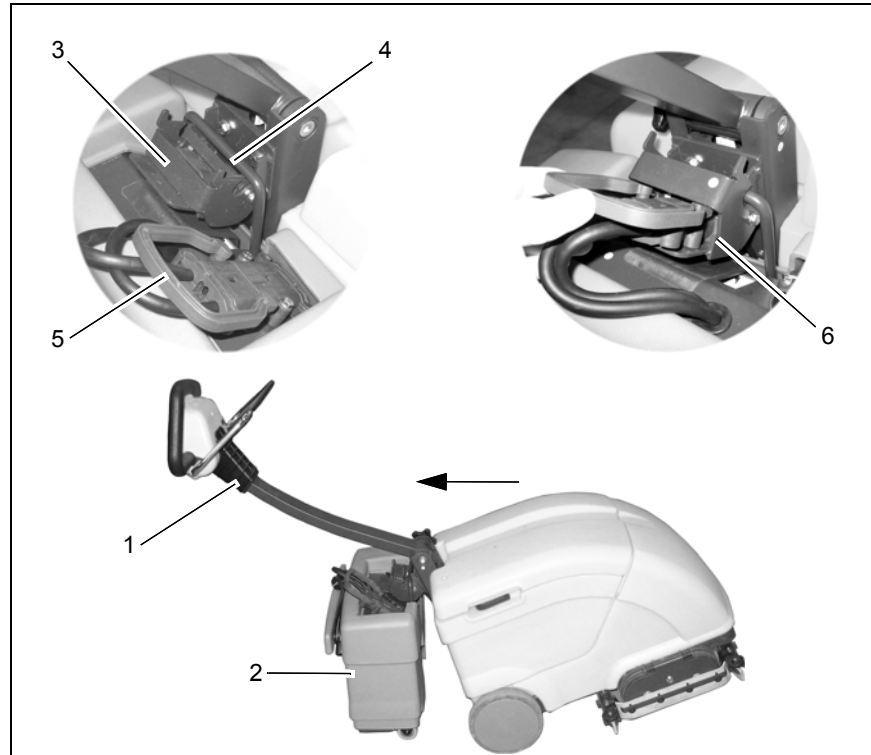

Fig.3
5. Tip the machine back a little using the shaft (Fig. 3/1) so that it is against the battery trolley (Fig. 3/2).
6. Slide the bracket (Fig. 3/3) in the support (Fig. 3/4) of the battery trolley.
8. Connect the battery plug (Fig. 3/5) from the battery trolley in the socket (Fig. 3/6) on the Hakomatic B10.